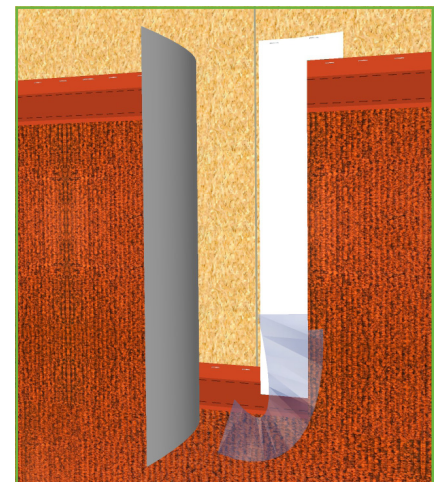

Figure 1.
- Place butted joint of WrapShield RS at the middle of the WrapFlashing SA, Figure 1.
- Remove the release film from WrapFlashing SA, Figure 1.